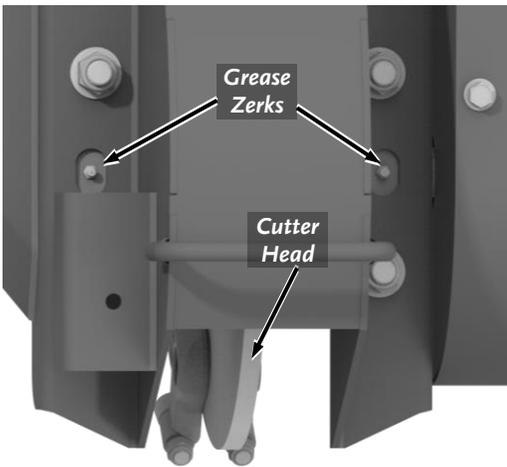

Figure 29
1. Locate the two Grease Zerks on the front of the Frame (**Figure 29**).